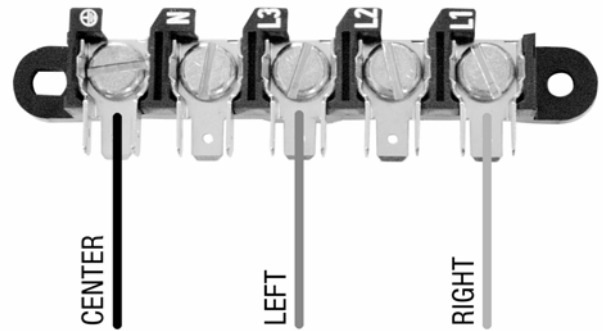

Fig. 8
- Attach the power cord ground conductor (green wire) to the ground terminal marked with the ground symbol. Tighten screw until ground conductor is secure. (See Fig. 8)
- Attach the two remaining power cord phase conductors (left = black wire and right = red wire) to the phase terminals (marked L3 & L1). Tighten screws so that the power conductors are secure. (See Fig. 8)